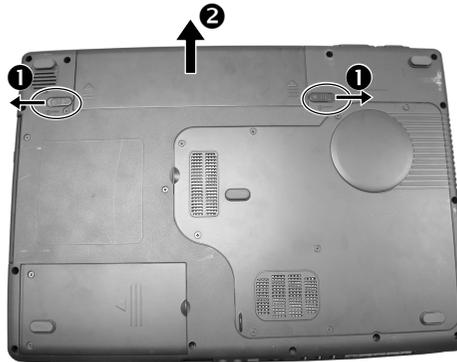

Figure 2-1 Remove the battery pack
2. Slide the two release levers outwards to the “unlock” position (❶), while take the battery pack out of the compartment (❷). (Figure 2-1)